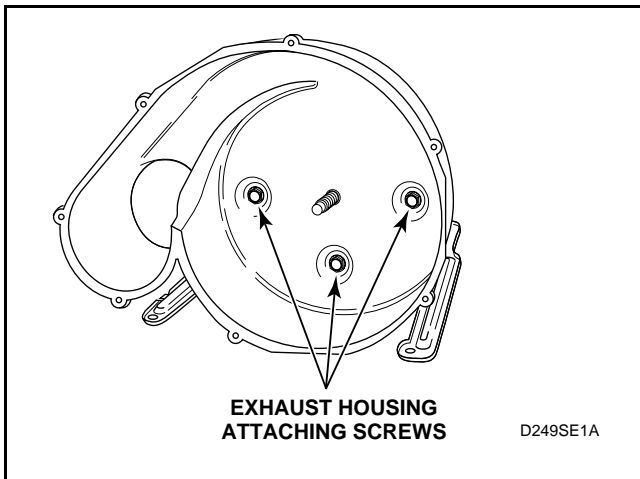

Figure 21
- (3.) Remove three screws holding the exhaust housing to the motor mounting bracket. See *Figure 21*.